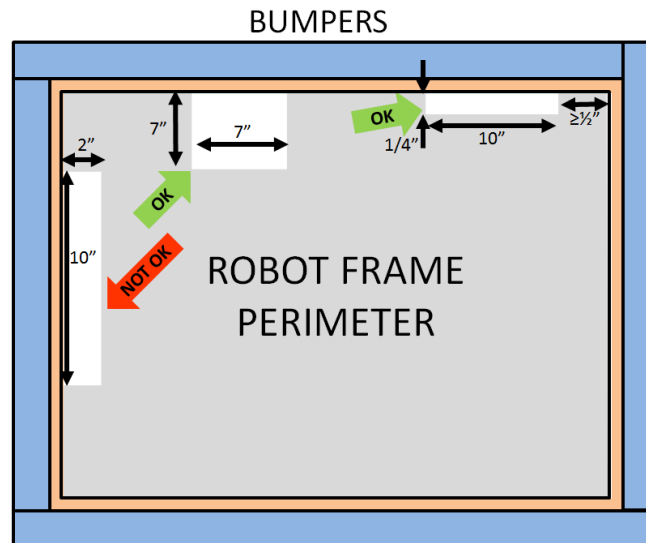

Figure 9-9 BUMPER support examples
**R26.** BUMPERS must be supported by the structure/frame of the ROBOT (see Figure 9-9). To be considered supported, a minimum of ½ in. (~13 mm) at each end of each BUMPER wood segment must be backed by the FRAME PERIMETER ( $\leq 1/4$  in. gap, ~6mm). “Ends” exclude hard BUMPER parts which extend past the FRAME PERIMETER permitted by R24-B. Additionally, any gap between the backing material and the frame: